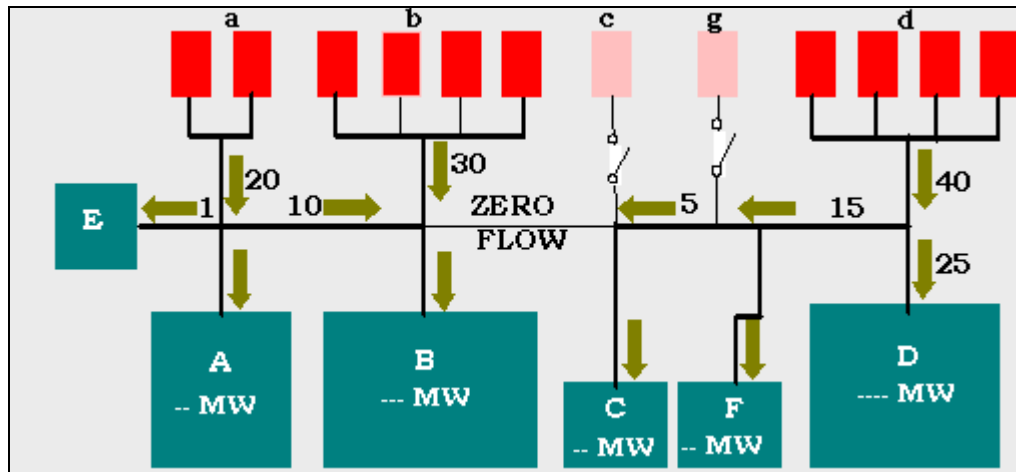

Fig. 1-11 Suitable Power Plants supplying Power to Load Areas
- Given the power plants a, b, c, g and d in Fig. 1-11, determine the electrical power required by the load areas A, B, C, F and D, assuming generator sets c and g not running.